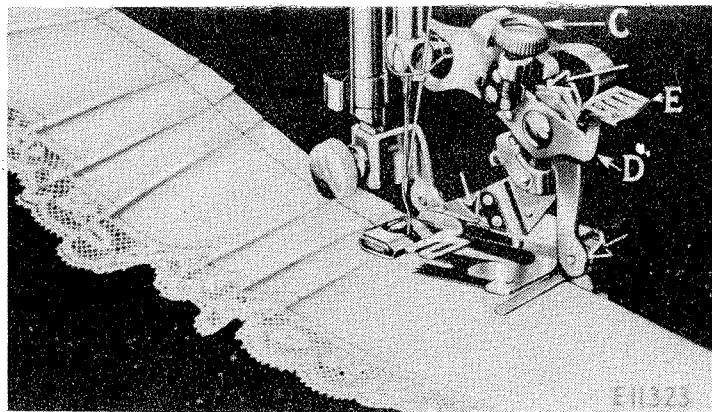

FIG. 46.
right so that the top of the projection (D) enters the small slot indicated by the star on the adjusting lever. This should be done at the points where you wish to make the space between the plaits. The ruffler will then stop and plain stitching will be made. When the desired space has been made, adjust the lever (E) so that the projection (D) enters either the slot marked "6" or the slot marked "12." By alternately making groups of plaits and plain spaces, as shown in Fig. 46, very attractive work can be produced.
Occasionally apply a drop of oil to the working parts of the ruffler at each of the places indicated by the unlettered arrows in Fig. 46. After oiling, operate the ruffler on a waste piece of material to prevent the oil soiling the work. If the ruffler does not plait evenly, a drop of oil may remedy the trouble.